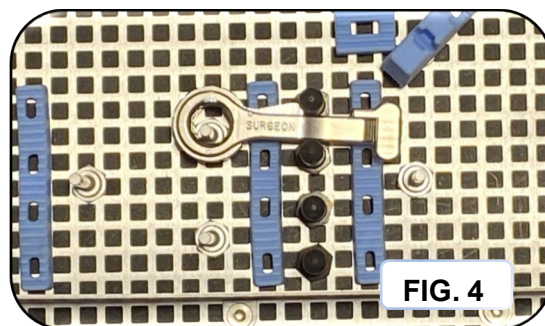

FIG. 4
1. If using a sterilization pouch, place one device in its own individual pouch. If using a sterilization tray, read the sterilization tray instructions for use before proceeding. Ensure that the sterilization tray has been cleaned according to the sterilization tray instructions for use and load the tray bottom according to FIG. 4.